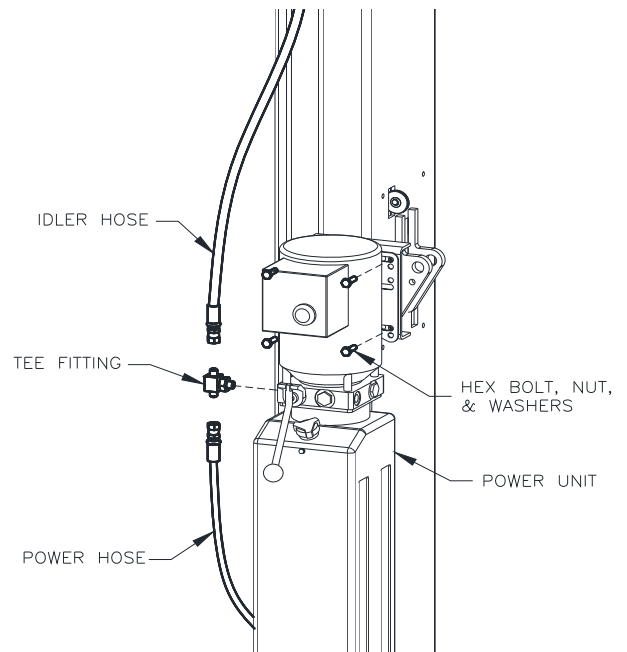

Fig 16 – Power Unit Assembly
- 31) Remove the Plug from the left side and relocate it to the right side. Assemble Power Unit, Tee Fitting, and hoses together as shown in **Fig 16**. Use (4 sets) M8 bolt, nut, flat washer, and lock washer to attach Power Unit to column bracket.